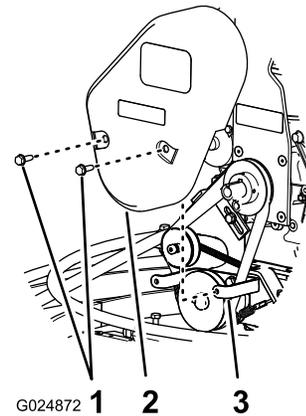

Figure 22
1. Remove the 2 hex-washer head bolts (5/16 x 1 inch) that secure the belt guard to the belt-guard bracket (Figure 22).
2. Pull the belt guard away from the engine and then up (Figure 22).
1. Align the holes in the belt guard with the holes in the belt-cover bracket (Figure 22).